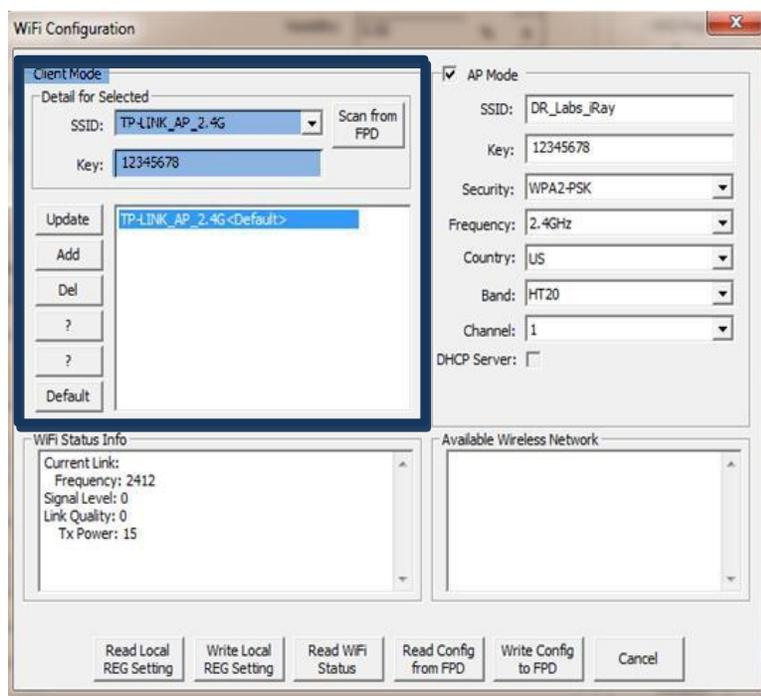

Figure 11
8. Within the *Client Mode* section **Figure 11**